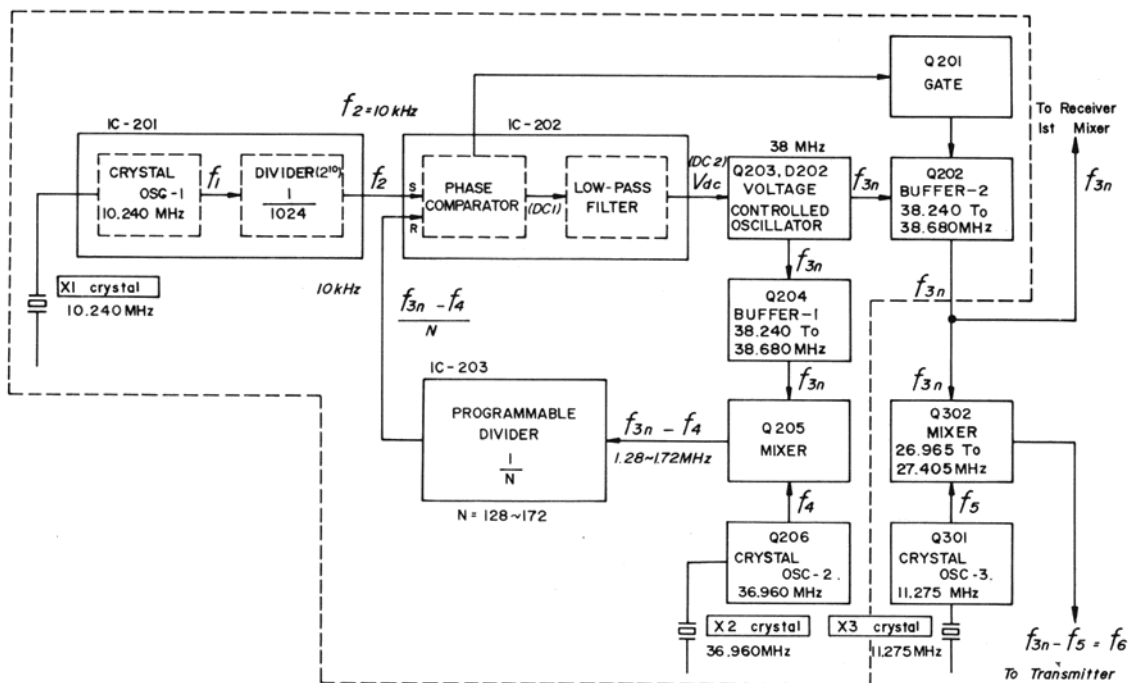

Figure 2 P.L.L. CIRCUIT FREQUENCY SYNTHESIZER
## A DESCRIPTION OF PHASE-LOCKED-LOOP (P.L.L.) CIRCUIT (Figure 2)
IC-202, the voltage controlled oscillator (or V.C.O.) Q203, the buffer amplifier Q204, the mixer Q205 and the programmable divider IC-203 as shown in Figure 2.
3) **Frequency Determining** (Refer to Figure 2)